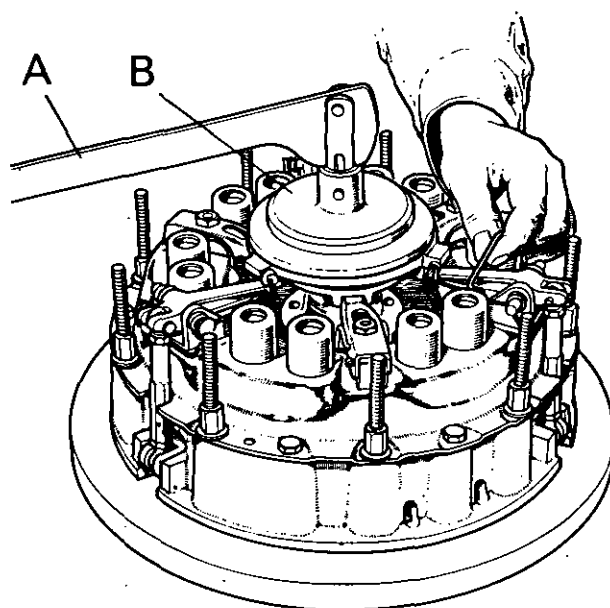

Figure 36. REMOVING RETAINING STAPLES
4. Screw the long centre pillar adaptor into baseplate and screw actuator into adaptor. Using actuator to depress PTO release levers, remove the three retaining staples then unscrew actuator. (Fig. 36.)